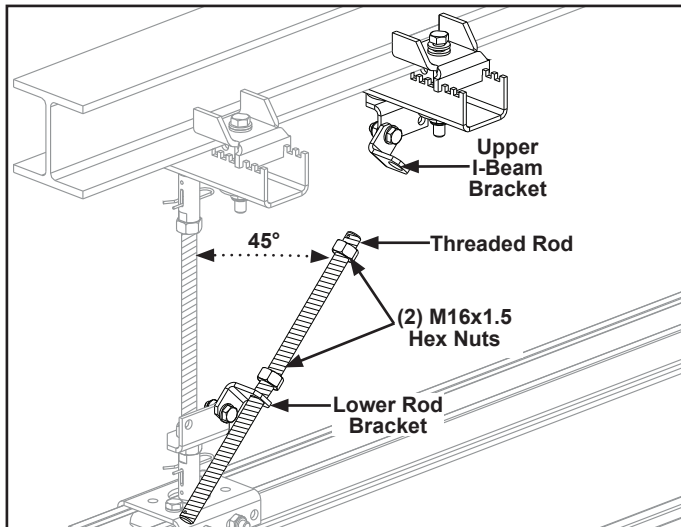

Figure 3-51
- Step 10. Tighten (2) M12 x 100 mm HHCS, alternating between sides, until I-Beam bracket is tight but able to slide on the I-Beam for sway bar adjustments.
- Step 11. Insert threaded rod through lower rod bracket. Threaded rod should be at a 45° angle. See Figure 3-51.
- Step 12. Start two (2) M16 x 1.5 hex nuts on the threaded rod. See Figure 3-51
- Step 13. Insert rod end through the lower I-Beam rod bracket. See Figure 3-51.